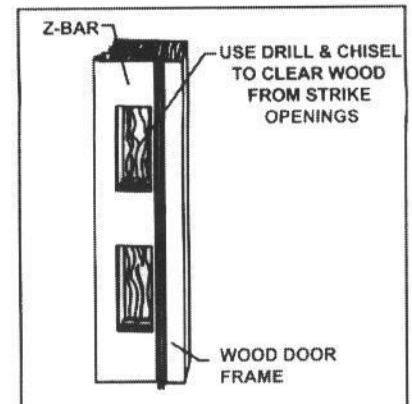

FIGURE 8
A. Using a drill and chisel, clear the wood from the strike openings behind the "Z" bar a minimum of 3/4" deep. **See Fig. 8.**